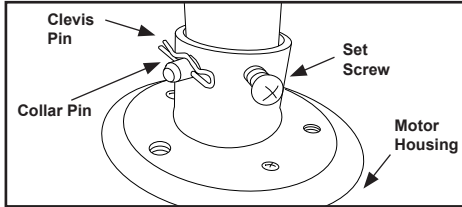

Figure 8
6. Align the holes at the bottom of the downrod with the holes in the collar on top of the motor housing (Figure 8). Carefully insert the collar pin through the holes in the collar and downrod. Be careful not to jam the pin against the wiring inside the downrod. Insert the clevis pin and bend to ensure it is secure, as noted in Figure 8.
7. Tighten the two screws on top of the fan (Figure 8).